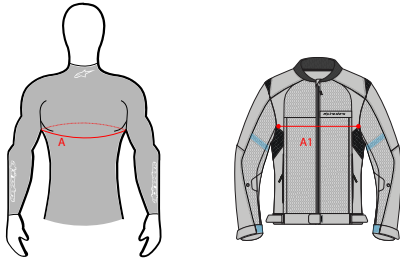

Figure 8
**WARNING! Tech-Air® 3 in sizes "S" or larger shall be worn with a Tech-Air® Ready Alpinestars' outer garment of the same size of the System or with any Alpinestars' outer garment that is not Tech-Air® Ready provided that the size of the Alpinestars' outer garment is one size larger than the size of the System or regardless of whether it is an Alpinestars' outer garment or not meets the following criteria: For the chest area, measure the circumference of the chest (A) and the garment width on the chest region (A1). The garment is compatible with Tech-Air® 3 System if  $A1 > 0.5 \times A + 12$  cm ( $A1 > 0.5 \times A + 4.72$  in) (see figure 8 below)**